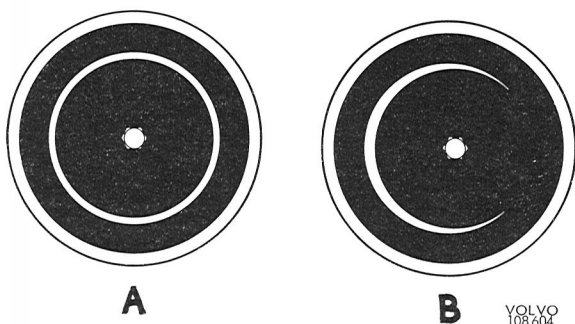

Fig. 1-24. Centering air flow sensor plate
- \*11. Check that the air flow sensor plate is centered in the air venturi and does not touch the wall at any point. See Fig. 1-24.